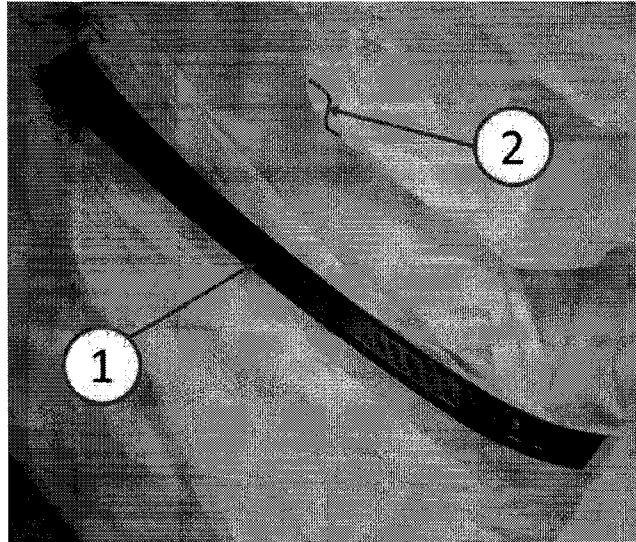

Fig. 2 Protect Adjacent Areas
1. Mask and protect adjacent areas of the repair area prior to beginning the correction procedure (Fig. 2).